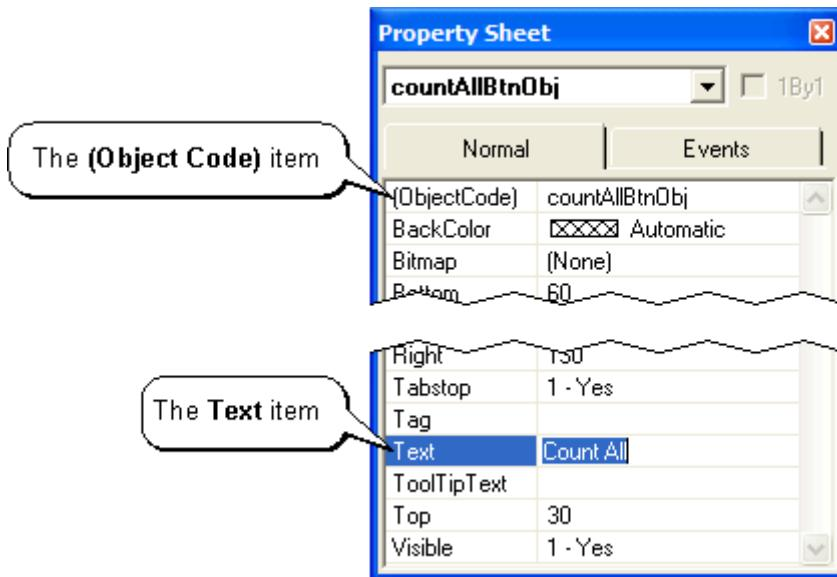

Figure 4-11. The Property Sheet dialog.
- 2) Right-click on the button and then select the **Object Properties** item from the resulting pop-up menu. This brings up the **Property Sheet** dialog as shown in Figure 4-11.